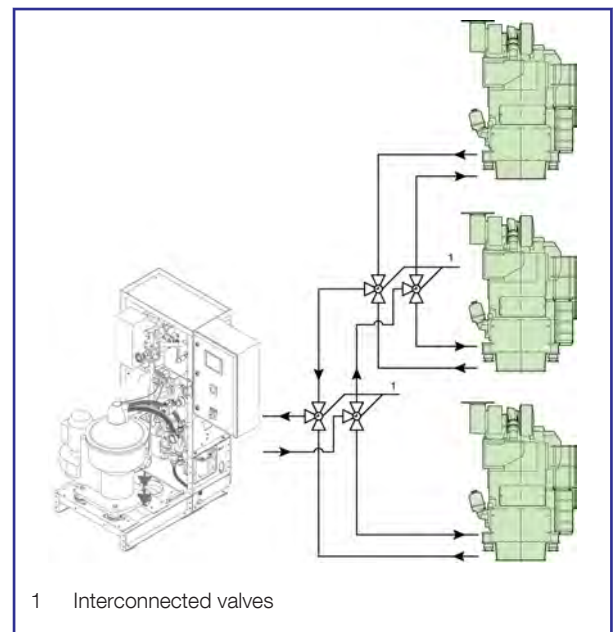

Figure 2: One common separator unit for multi-engine plant
- A common separator unit (*see figure 2*) can be installed, with one in reserve, if possible, for operation of all engines through a pipe system, which can be carried out in various ways. The aim is to ensure that the separator unit is only connected to one engine at a time. Thus there will be no suction and discharging from one engine to another.